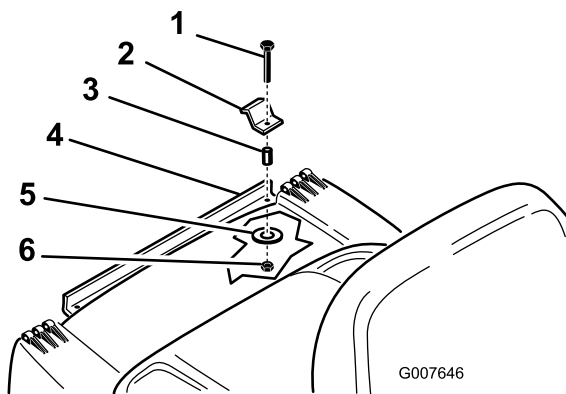

Figure 8
4. Attach the grass collector to the rear of the tractor with 2 bolts (M6 x 16.2 mm), Z-brackets, spacers, washers, and nuts (M6) (Figure 8).